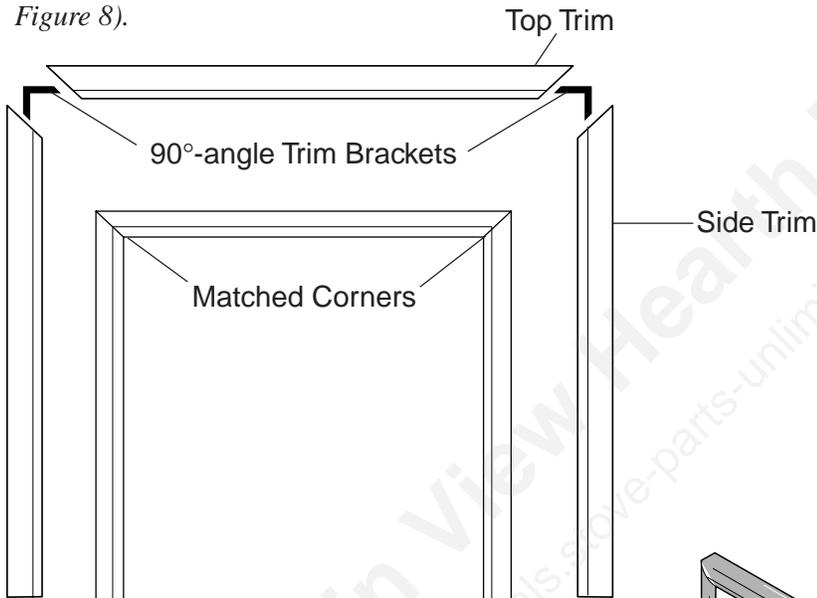

Figure 6 - Matching and Joining Corners of Brass Trim with 90°-angle Trim Brackets
1. Remove brass trim from protective packaging. Remove four (4) brass screws and 2 (two) 90°-angle trim brackets from owner's manual packaging.
2. Lay trim on floor and match corners of side trims to top trim (See Figure 6).
3. Use one 90°-angle trim bracket to join the corner of one piece of side trim to the corner of the top trim piece (See Figure 6). A rubber hammer or handle of a claw hammer will help secure the corners.